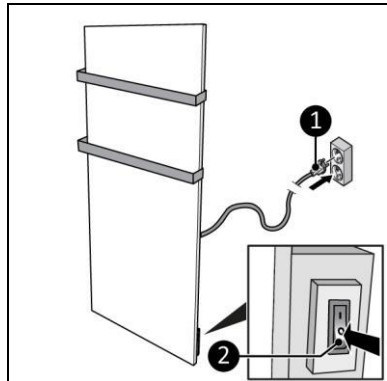

Figure 13
2. Make sure the ON/OFF switch is in the OFF position (Figure 13, pos. 2).
3. Place the power plug (Figure 13, pos. 1) into an earthed wall socket that is easily accessible. Use an earthed wall socket with a minimum power of 800 Watt.
1. Make sure the ON/OFF switch is in the OFF position (Figure 13, pos. 2).
2. Disconnect the power plug from the power outlet (Figure 13).